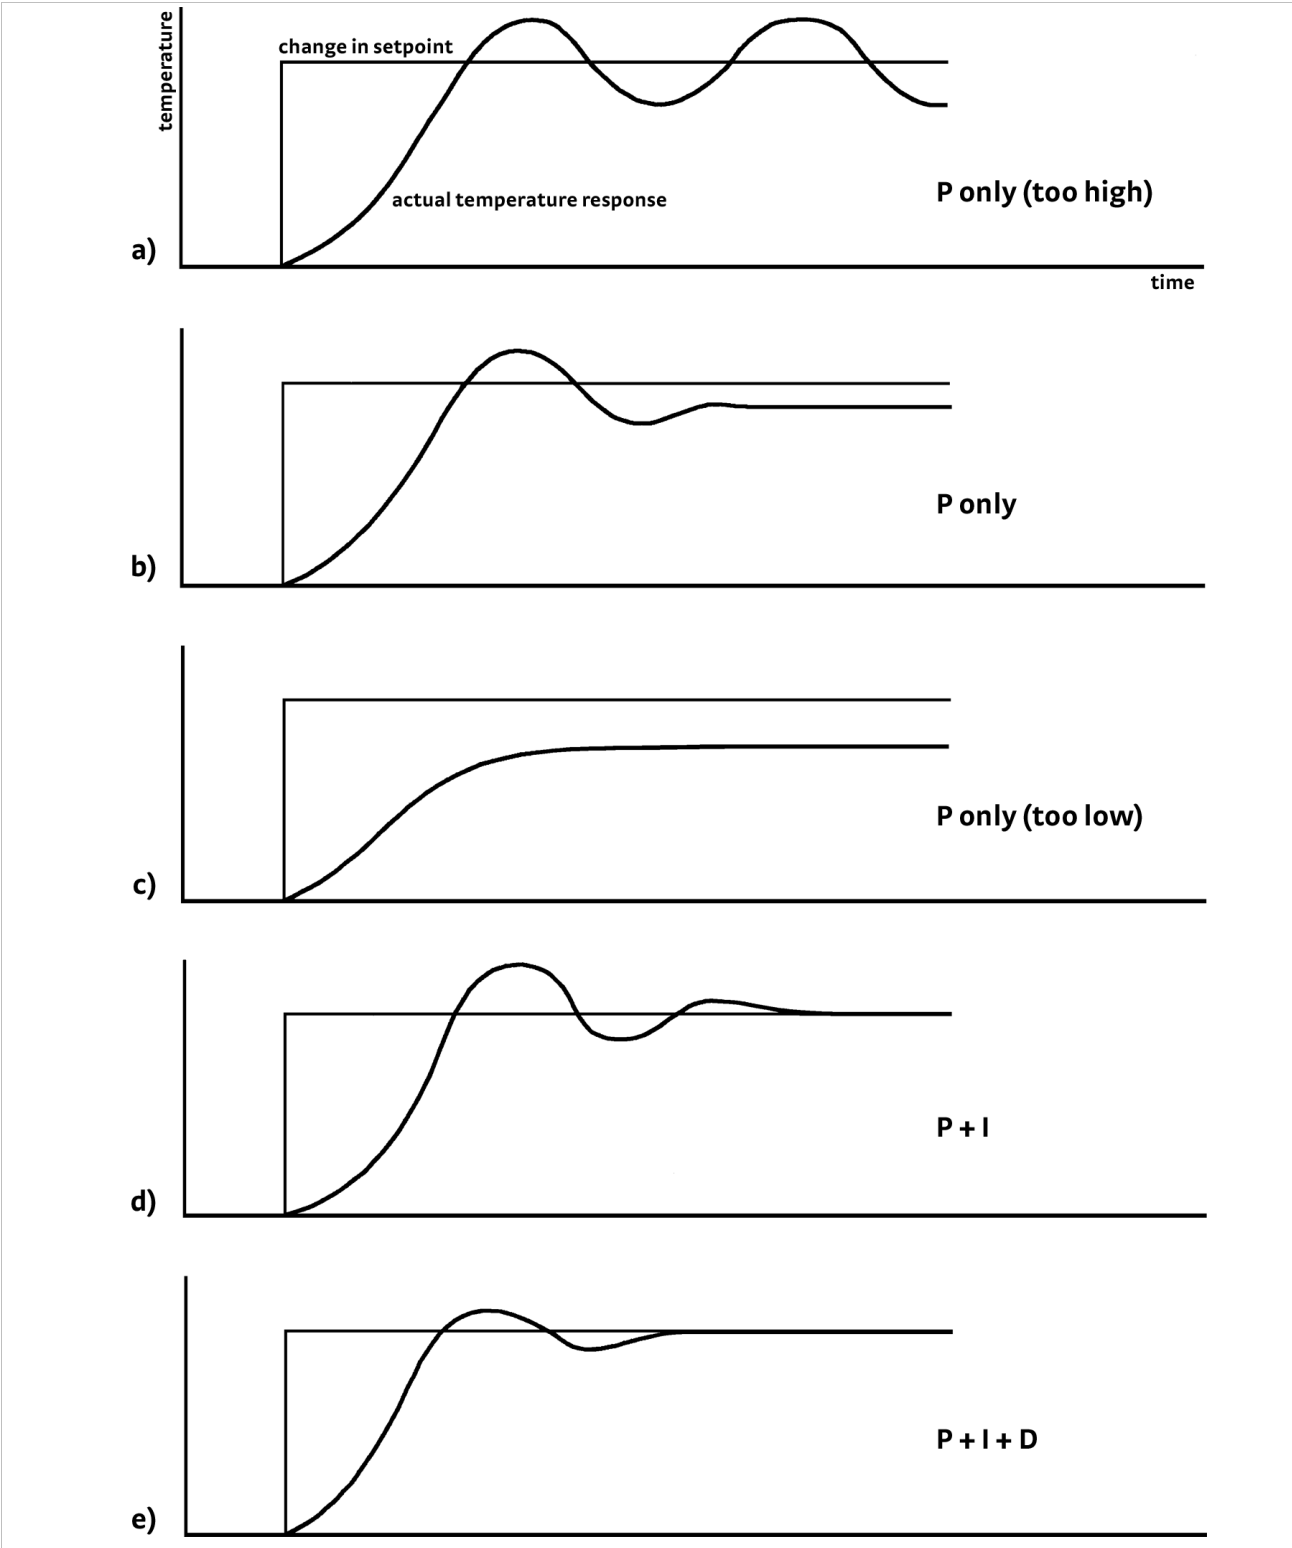

FIGURE 2-4 Examples of PID control
For closed-loop operation, the Model 350 temperature controller uses an algorithm called PID control. The control equation for the PID algorithm has three variable terms: proportional (P), integral (I), and derivative (D). See FIGURE 2-4. Changing these variables for best control of a system is called tuning. The PID equation in the Model 350 is:
8. Repeat step 7 until you reach a setting in which the load temperature begins a sustained and predictable oscillation, rising and falling in a consistent period of time. See FIGURE 2-4(a).
11. Reduce the proportional setting by half. The appropriate proportional setting is one half of the value required for sustained oscillation in step 8. See FIGURE 2-4(b). Continue to Tuning Integral section 2.14.3.
When the proportional setting is chosen and the integral is set to 0 (off), the Model 350 controls the load temperature below the setpoint. Setting the integral allows the Model 350 control algorithm to gradually eliminate the difference in temperature by integrating the error over time. See FIGURE 2-4(d). An integral setting that is too low causes the load to take too long to reach the setpoint. An integral setting that is too high creates instability and can cause the load temperature to oscillate.
If an experiment requires frequent changes in setpoint, derivative should be considered. See FIGURE 2-4(e). A derivative setting of 0, off, is recommended when the control system is seldom changed and data is taken when the load is at steady state.